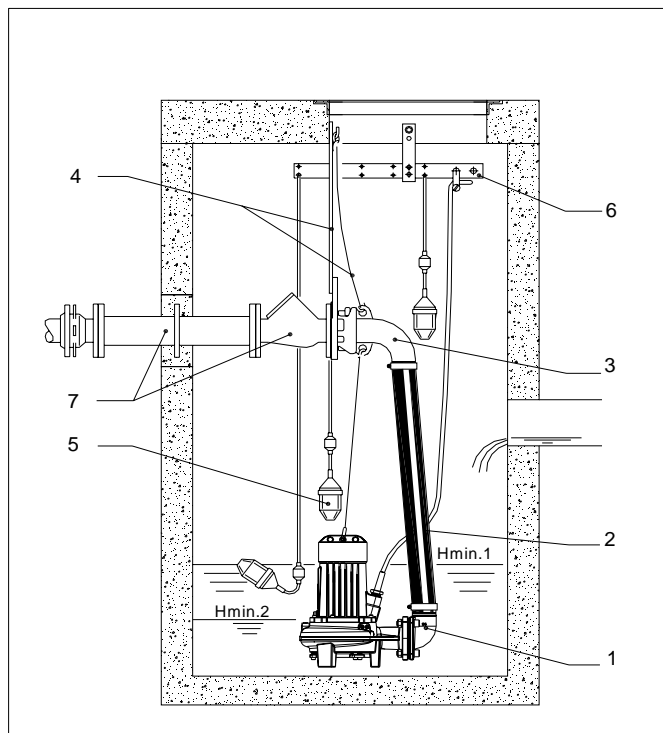

Fig. 6.1
- Check that the motor is adequately cooled. The motorhousing should be at least 2/3 submerged for continuous operation at full load (see Hmin.1 Fig. 6.1).
For interrupted level controlled operation, less cooling is required. We recommend not to run the pump with the water level below the top of the volute in order to avoid air being drawn in (see Hmin.2 Fig. 6.1). Air in the discharge pipes might impair performance.